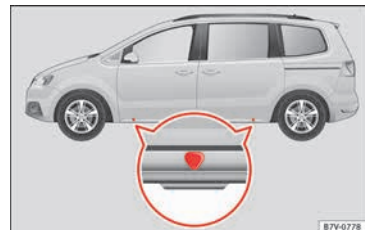
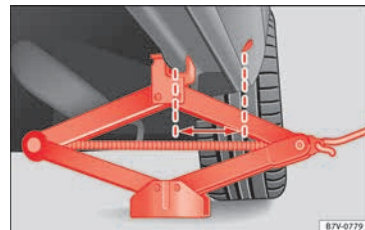

Fig. 70 Jack position points
Fig. 71 Jack mounted on the left rear part of the vehicle
The jack may be applied only at the jacking points shown (marks on chassis) **» Fig. 70**. The mark indicates the jacking points **below** the vehicle. The jacking points are on the ribs **behind** the front edges **» Fig. 71**. Always the relevant jacking point for the wheel to be changed **» **.
6. Look below the vehicle for the jacking point » Fig. 70 closest to the tyre which has to be changed.
8. Ensure that the foot of the jack is firmly on the ground and that it is placed immediately below the lifting point on the vehicle » Fig. 71.
the vertical reinforcement beneath the vehicle » Fig. 71.
- Only fit the jack at the prescribed jacking points. The claw of the jack should grip the reinforcement nerve on the underbody » Fig. 71.